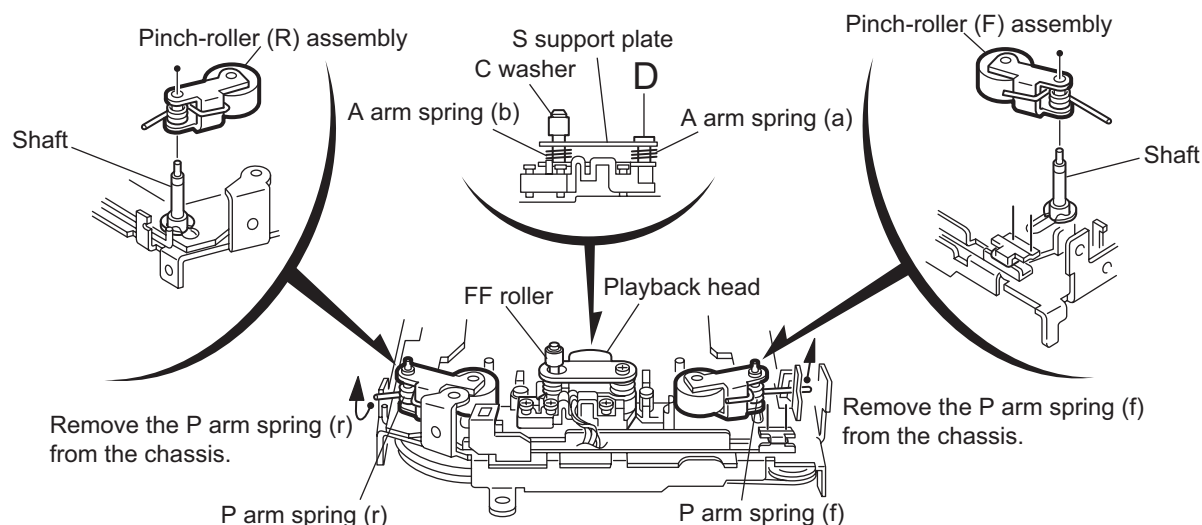

Fig.2
### 2.2.4 Removing the playback head (See Fig.2)
### 2.2.5 Removing the pinch-roller (R) and (F) assembly (See Fig.2)